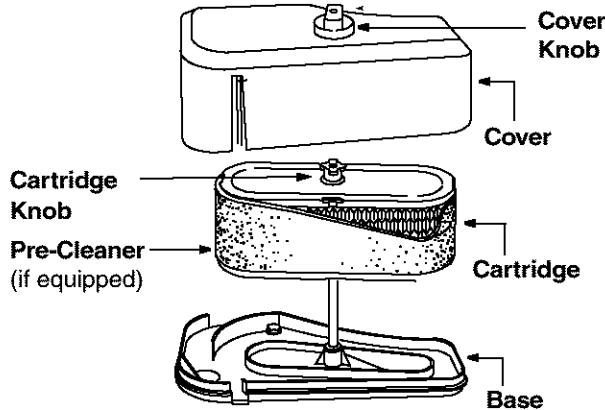

Figure 19
2. Carefully lift the air cleaner assembly including the pre-cleaner, if equipped, and the cartridge from base over the stud. See Figure 19.